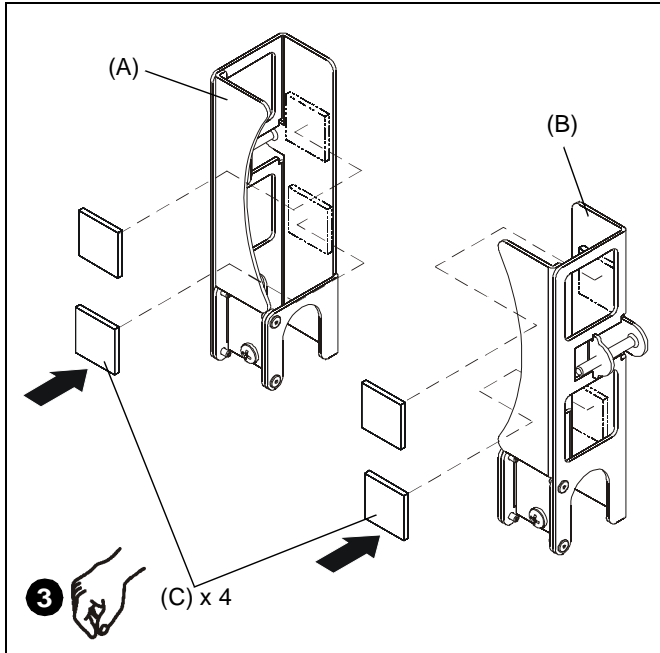

Figure 1
1. Put hook and loop squares (C) together so there are 4 squares of hook and loop.
3. Attach hook and loop squares to the left and right brackets (A and B). (See Figure 1)